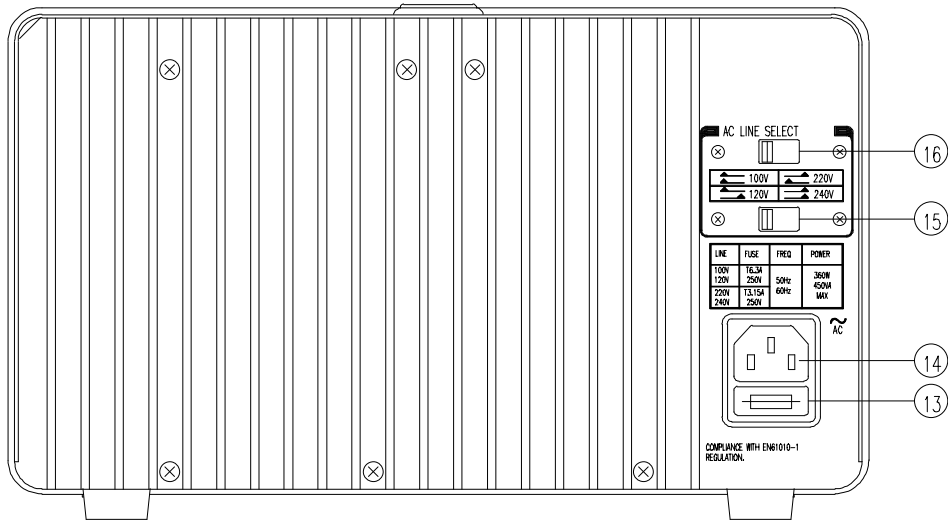

Figure 3-3 (Rear Panel)
3.2 Rear panel (see figure 3-3)
(13) Fuse holder
(14) Power cord
(15) HI-LO switch
(16) AC selects switch
The IPS1810H and IPS1063D can operate under different line voltages which are tapped from the transformer to permit operation from 100, 120, 220 or 230VAC, 50/60Hz line voltages. Conversion from one line voltage to another is done by changing the AC selector switch as shown in figure 3-3. The rear panel will be currently set to operate for UK mains - 240VAC 50Hz line voltage